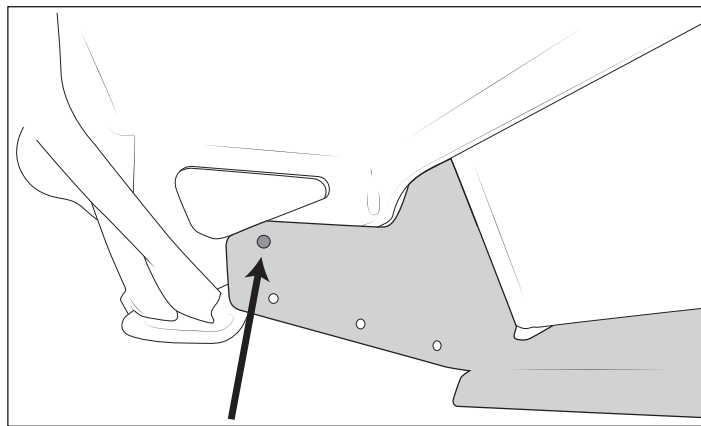

Figure 38
3. To attach the sides of the intercooler shroud to the bumper, use the upper shroud hole as a guide to drill out the bumper and secure with the M6x20 bolts, nuts, and washers supplied in the intercooler shroud kit (fig. 38). Torque to 9 lb-ft.